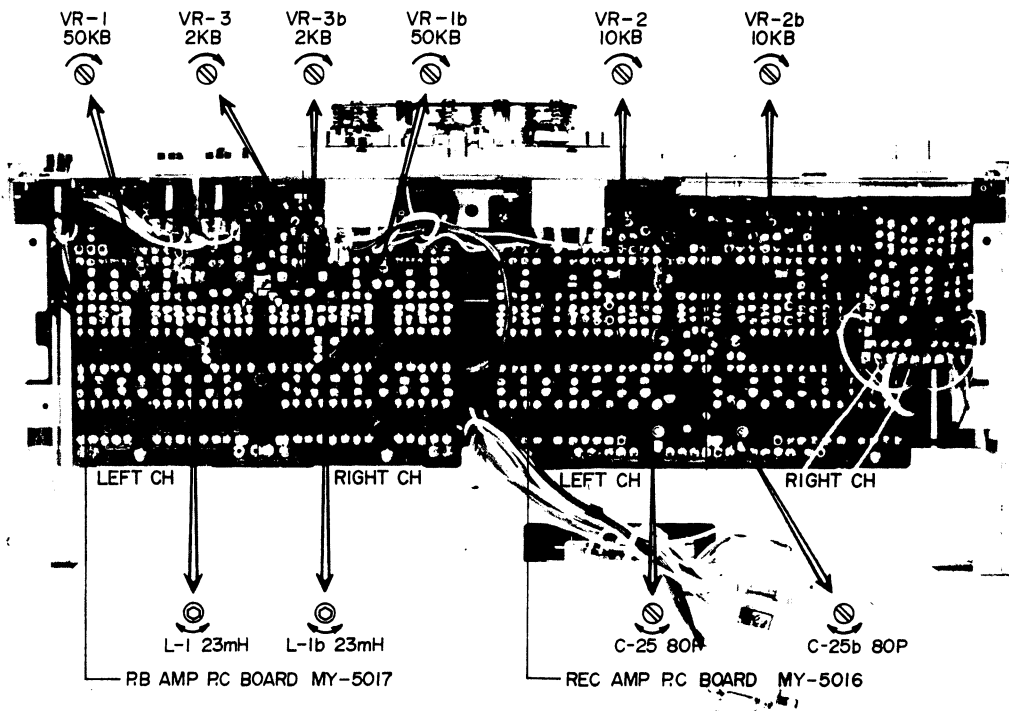

Fig. 13
(Refer to Fig. 13)
4. RECORDING AND PLAYBACK AMPLIFIER ADJUSTMENT (Model GX-630DB) (Refer to Figs. 13, 14)